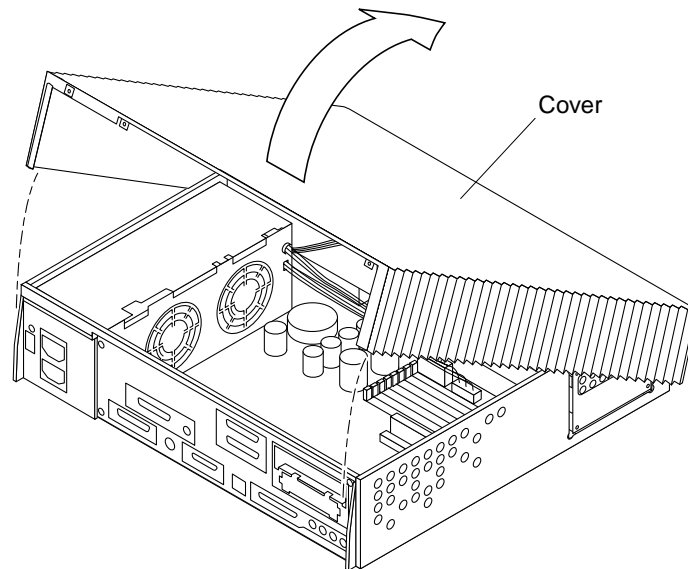

Figure 2-2 Removing the Cover
3. Grasp the sides of the cover and lift up the back of the cover. After the cover clears the back panel, push the cover away from the front panel (Figure 2-2).